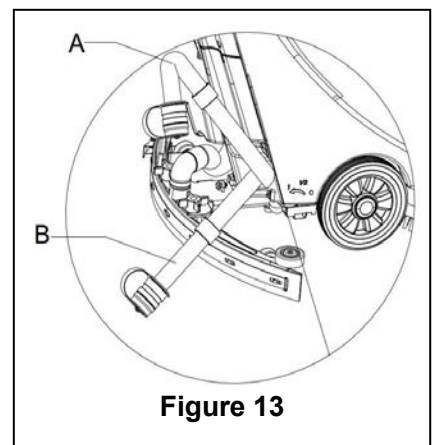

Figure 13
2. By using the squeegee handle (14), lift the squeegee.
4. Grasp the handlebar (2) and gently incline the machine backward until the guide wheel touches the floor. (For docking of the machine please refer to the procedures in the stopping of the machine section.)
5. Take off the draining hose from the fixation clip, bend the top end of draining hose (as shown in **A**, **Figure 13**), and then open the cover of draining hose, lower draining hose to a low level or on the ground to drain the water. Alternatively, directly place draining hose to a low position or on the ground to make the water outlet face downward (as show in **B**, **Figure 13**), and then twist open the water draining lid to drain off the wastewater in the tank. After draining is completed, use pure water to cleanse the inside of recovery tank.
When draining the wastewater, the vacuum tube for waste must be folded or lowered to a lower position (as shown in Figure 13 A or B), and then open the lid of the vacuum tube for waste to drain the water. Do not make the outlet of the vacuum tube for waste face upward to drain the water vertically. This is to avoid wastewater spilling onto the operator.